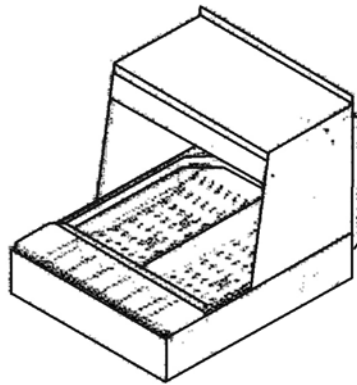

Figure 1
5. Unit should now have components in place as shown in Figure 1.
- b. To change heat settings for pan and the overhead elements see Figure 1.